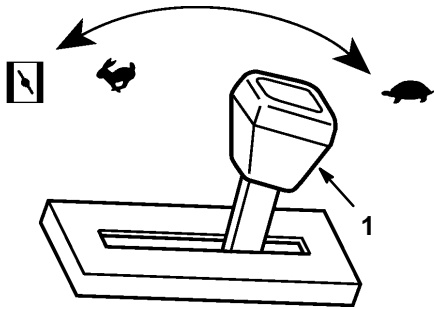

Figure 13
1. Move throttle lever to  position (Fig. 13).